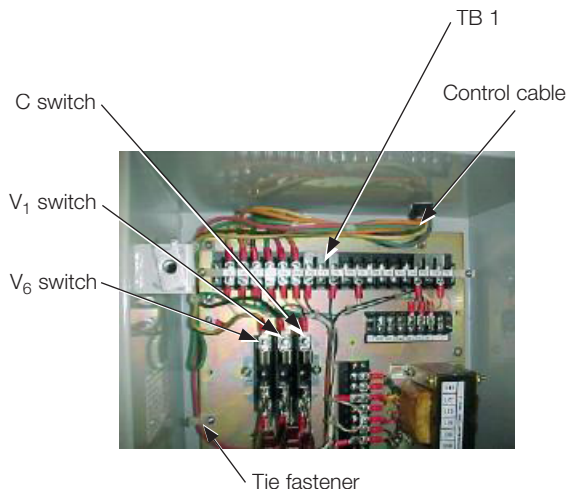

Figure 8.
2. Using a pair of diagonal cutters, cut the tie fasteners holding the control cable leads to the mounting bases on the back panel. Refer to Figure 8.